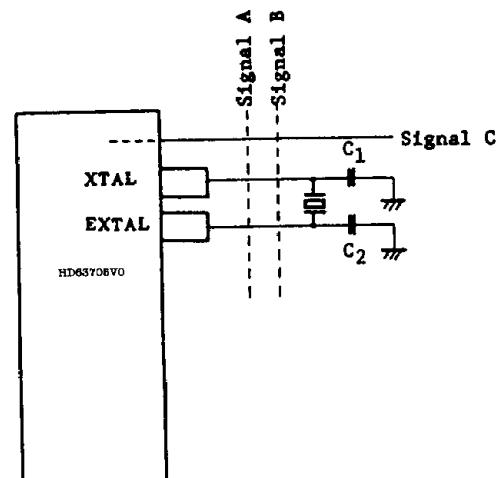

Figure 41 Example of Circuit Causing Trouble in Oscillation
- (1) Locate crystal, ceramic resonator, and load capacity C_1 and C_2 as near the LSI as possible. (Induction of noise from outside to the XTAL and EXTAL pins may cause trouble in oscillation.)
- (2) Wire the signal lines to the neighboring XTAL and EXTAL pins as far apart as possible.
- (3) Board design of situating signal lines or power supply lines near the oscillator circuit as shown as Figure 41, should not be used because of trouble in oscillation by induction. The resistor between the XTAL and EXTAL, and pins close to them should be $10\text{M}\Omega$ or more.